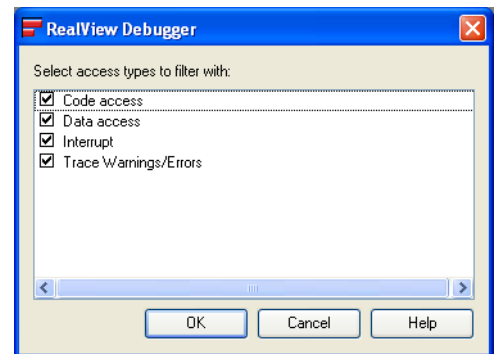

Figure 9-17 Filtering on an access type match
1. Select **Filter on Access Type...** from the **Filter** menu to display the List Selection dialog box. Figure 9-17 shows an example: